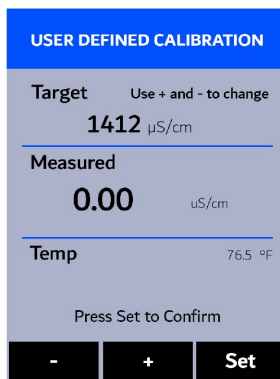

Figure 18.
5. Press ( **<** ) to launch the **USER DEFINED CALIBRATION** screen (Figure 18).